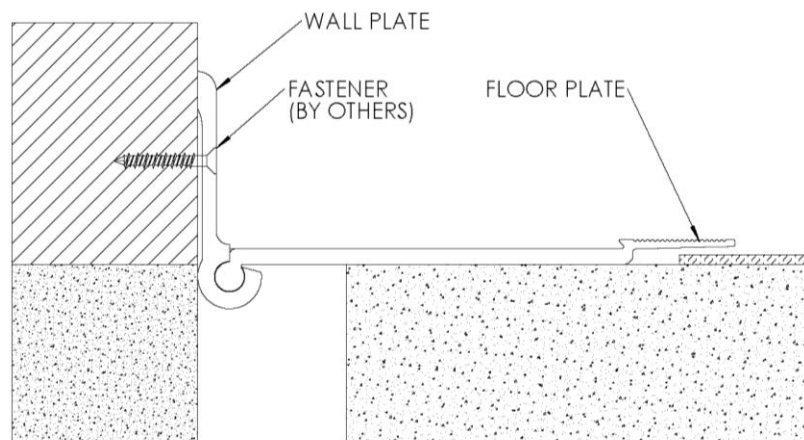

FIGURE 3
3. Install the cover system by attaching it to the wall through the predrilled holes in the wall plate with appropriate fasteners (by others) for the wall type. Make sure the floor plate is level and resting on floor. The two ends of the wall plate should be installed first and then fasten through the rest of the predrilled holes in the wall plate. **See Figure 3**